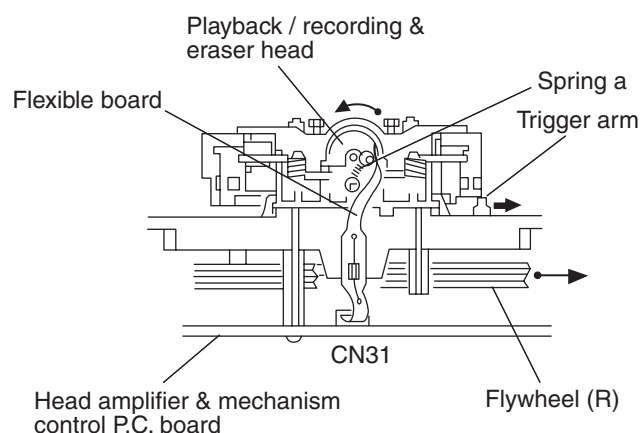
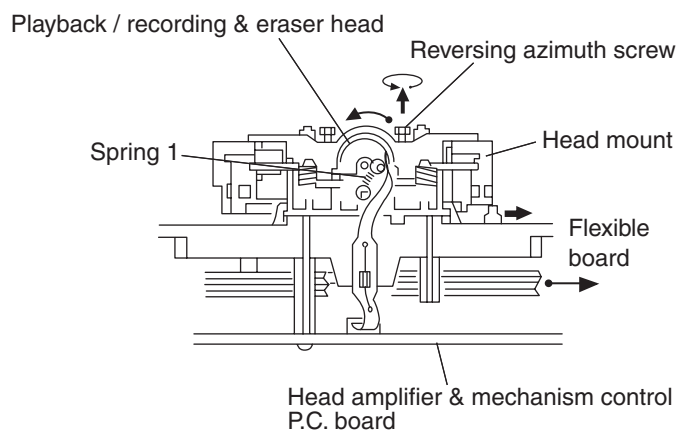

Fig. 2
Fig. 3
2. When the flywheel (R) is rotated in counterclockwise direction, the playback / recording & eraser head will be turned in counterclockwise direction from the position in Fig. 2 to that in Fig. 3.
### ■ Reassembling the playback / recording & eraser head (See Fig.2, 3)
1. Reassemble the playback head from the front of the head mount to the position as shown in Fig. 3.
4. Attach the flexible P.C. board to the chassis base, as shown in Fig. 3.